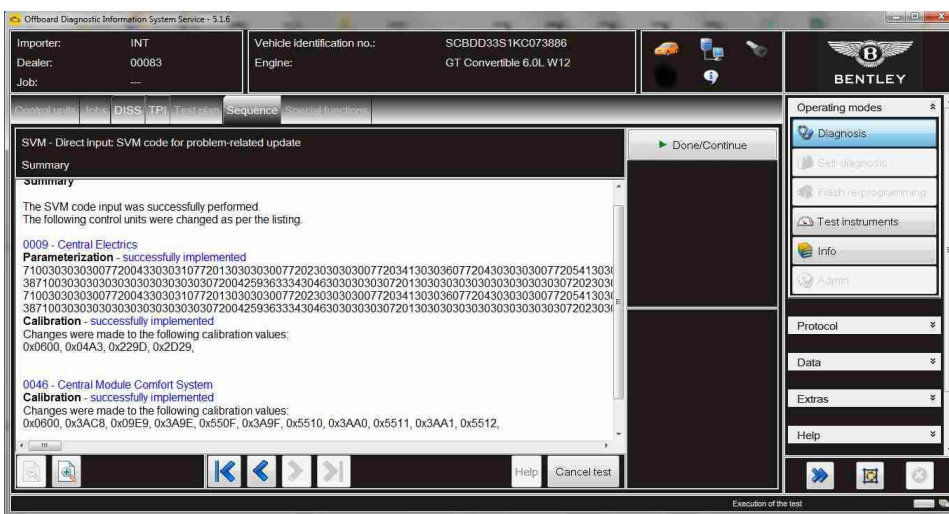

Figure 6
9. On the next screen you will get a summary of the completed actions, select Done/Continue (Figure 6).